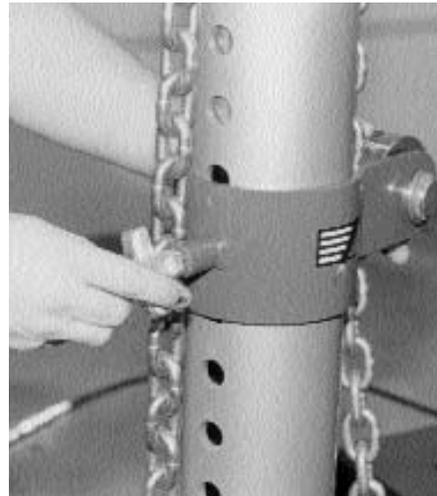

Figure 40
5. Rotate tower pipe as needed to align chain and collar with pull. Disengage spring-loaded pin on collar assembly to adjust collar up or down. (See Figure 40.) Fully engage the pin in a pinning hole to secure.